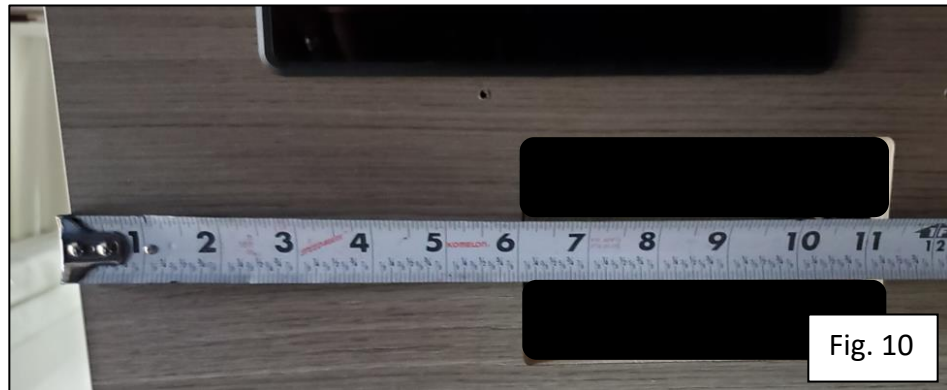

Fig. 10
- ii. Measure from the side of the bath wall - 6 inches to left side and 11-1/4 inches to the right side (Figure 10)